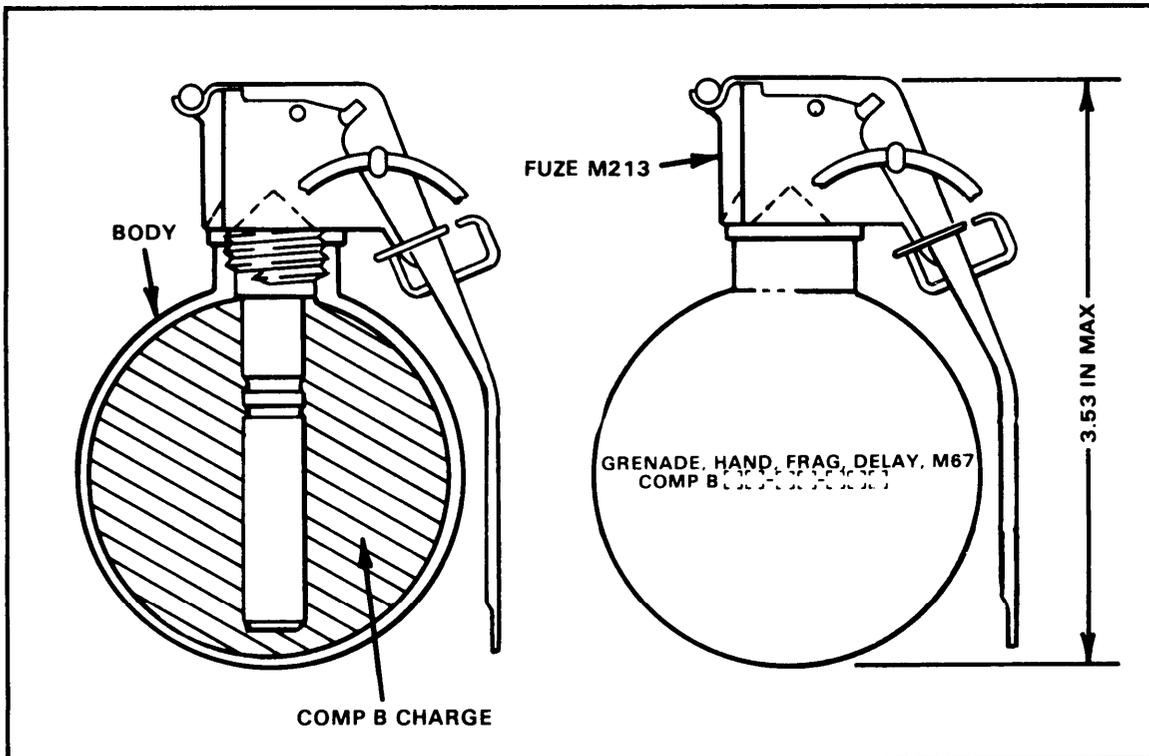

Figure 1-10. M67 fragmentation grenade.
b. M67 (Figure 1-10).
(1) Body -- steel sphere.
(2) Filler -- 6.5 ounces of Composition B.
(3) Fuze -- M213.
(4) Weight -- 14 ounces.
(5) Safety clip -- yes, see paragraph 1-3.
(6) Capabilities -- can be thrown 40 meters by average soldier. The effective casualty-producing radius is 15 meters.
(7) Color/markings -- olive drab body with a single yellow band at the top. Nomenclature and or lot number markings are in yellow.